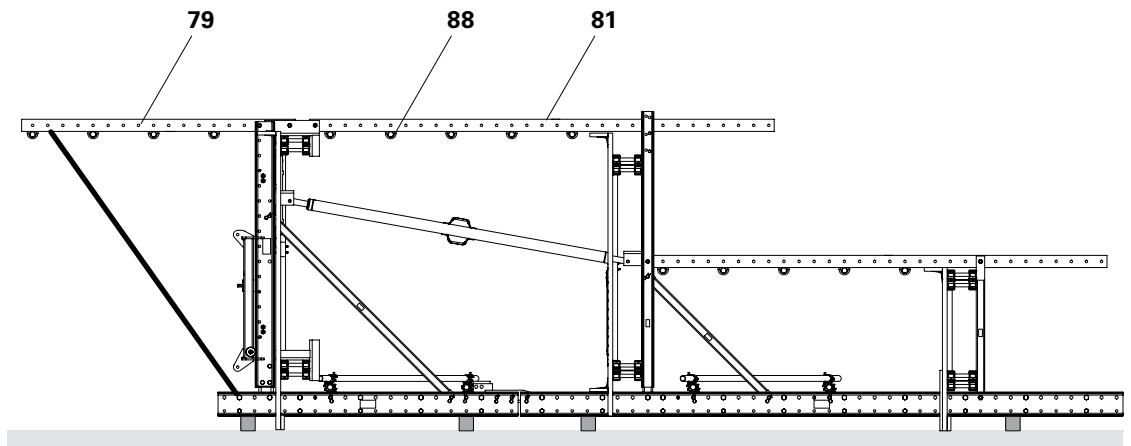

Fig. E2.01
1. Secure the finishing platform (33) to prevent tipping.
2. Dismantle scaffold tubes (88) and Guardrail Posts (79 + 81). (Fig. E2.01)